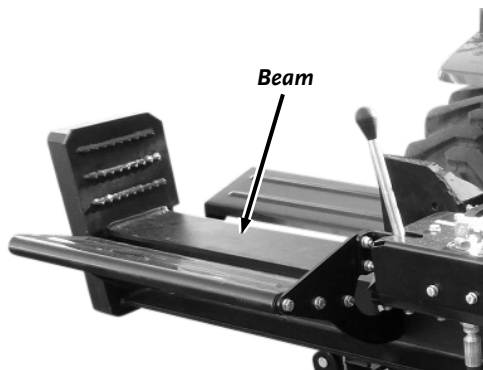

Figure 10
1. Lubricate the Beam area (where the splitting wedge will slide) with Corrosion Inhibiting Lubricant (**Figure 10**). Do not use Grease.